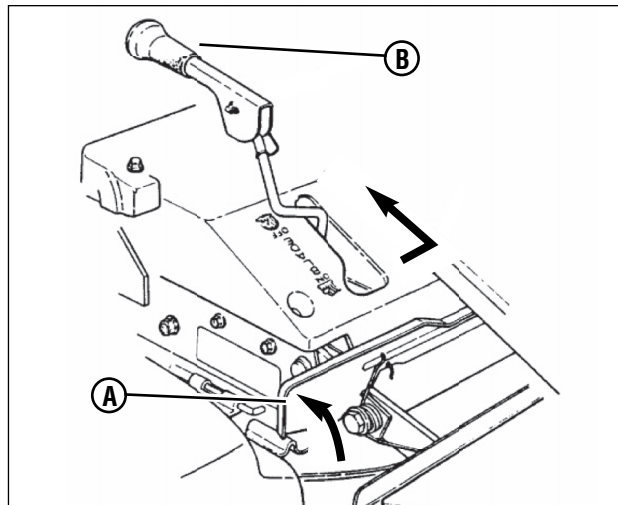

Figure 15: Stopping the mower blade
1. Stop the mower blade by releasing the blade pedals (A, Figure 15) or moving the blade lever (B) rearward to the "OFF" position.